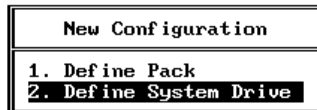

Figure 2-20. New Configuration - Define System Drive
1. Select **Define System Drive** from the New Configuration menu (Figure 2-20).